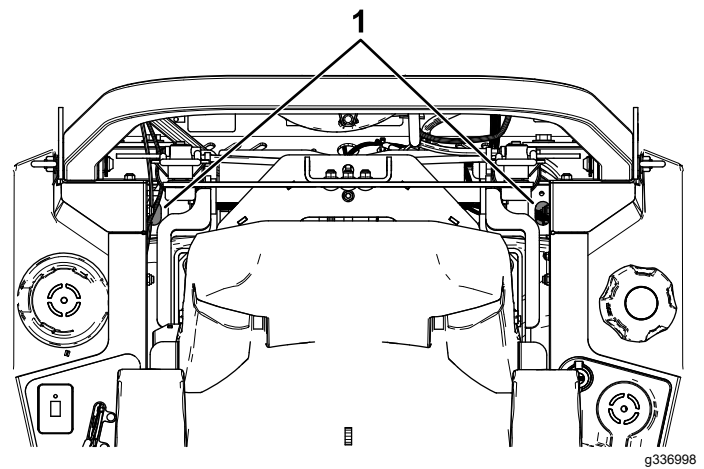

Figure 92
- **For ZT 4400 Hydros**, use an extension and 7/16-inch socket, access the vent plug from the top of the machine through the holes near the roll-bar mounts (Figure 92).